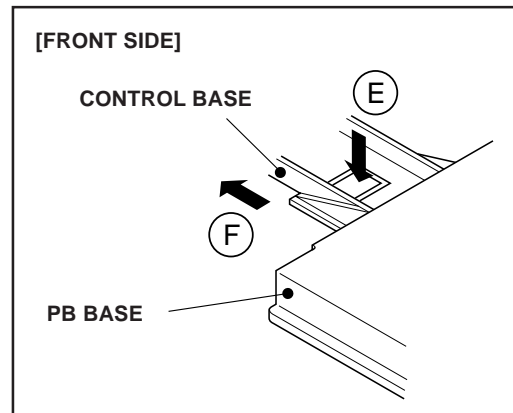

Fig. 2
1. While pushing down the claws marked "E", remove the Control Base forward (in the arrow direction marked "F"). (See Fig. 2.)